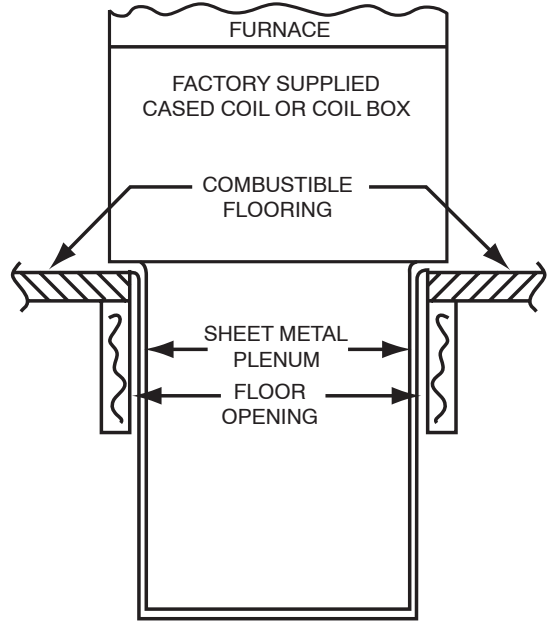

Fig. 24 - Furnace, Plenum, and Coil Assembly or Coil Box Installed on a Combustible Floor
5. If coil assembly is used, install as shown in Fig. 24.